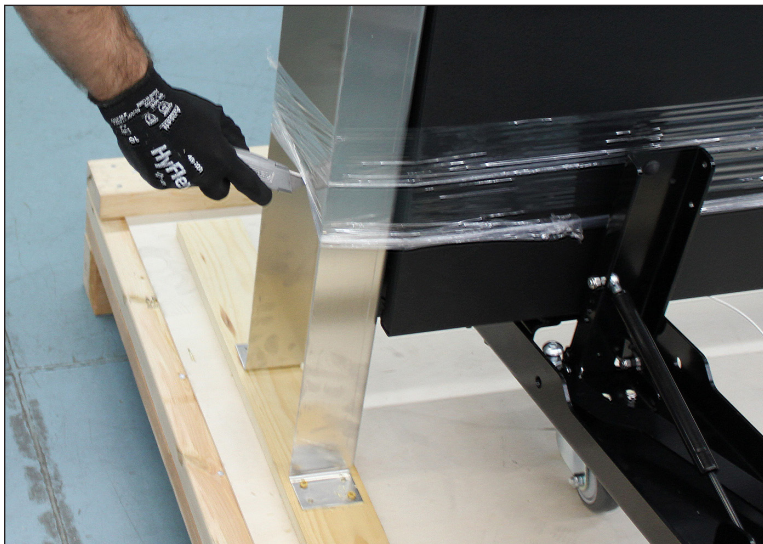

Figure 13: Remove Wrap from Table
1. Once both caster bases are fully installed, stand on one side near the shipping bracket and use a utility knife to cut through the plastic wrap. Refer to **Figure 13**. Cutting the plastic wrap anywhere else has the potential to damage the table.